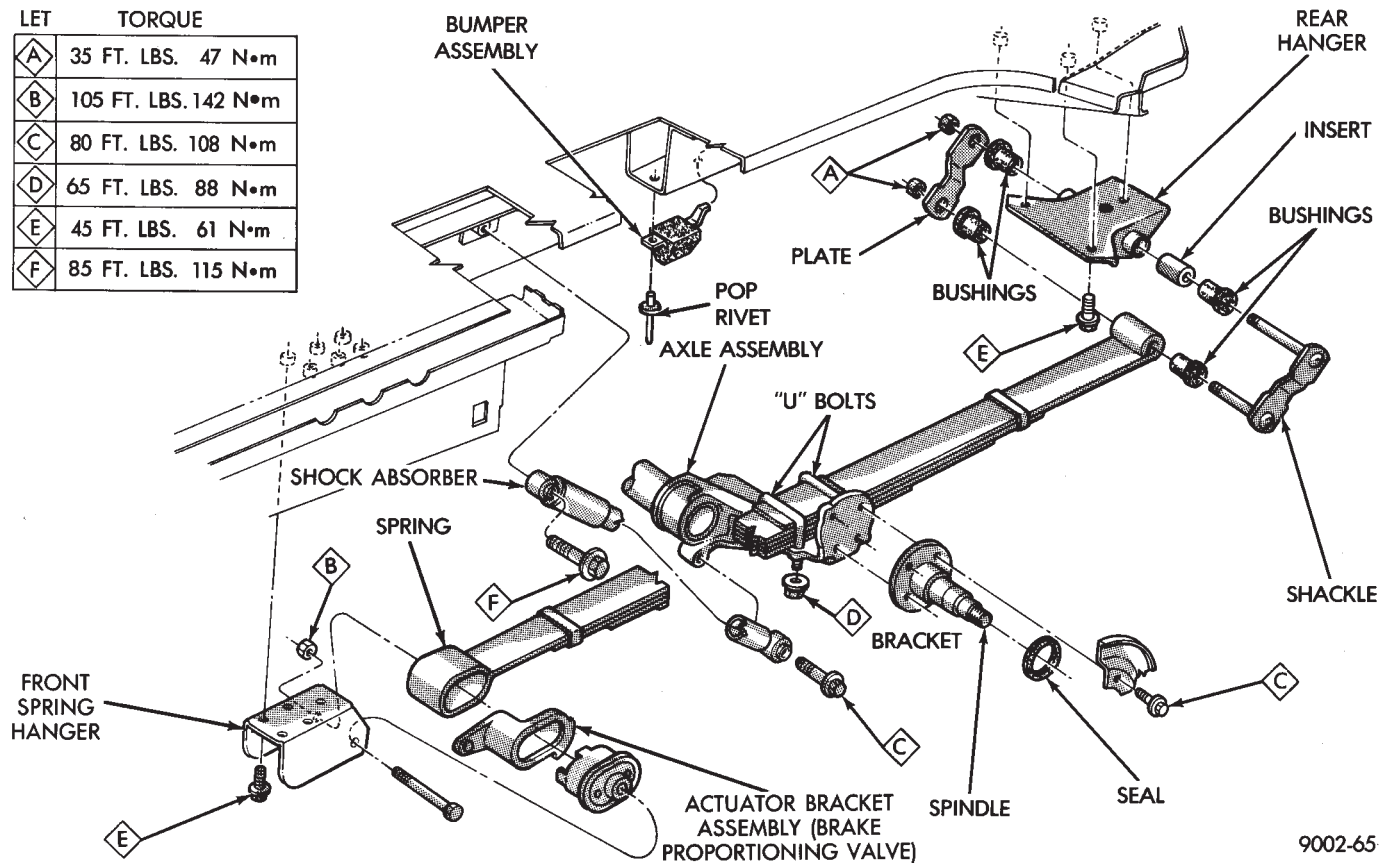

Fig. 1 Rear Suspension
- (1) Raise vehicle on frame contact hoist to a comfortable working position.
- (2) Using floor stands under the axle assembly, raise axle assembly to relieve weight on rear springs.
(3) Disconnect the actuator assembly for height sensing proportioning valve (Fig. 1). Disconnect lower ends of rear shock absorbers at axle brackets.
(4) Loosen and remove "U" bolt nuts and washers, remove "U" bolts.
(5) Lower rear axle assembly, permitting rear springs to hang free.
(6) Loosen and remove four bolts from front spring hanger.
(7) Loosen and remove rear spring shackle nuts and plate, remove shackle from spring.
(8) Loosen and remove front pivot bolt from front spring hanger.